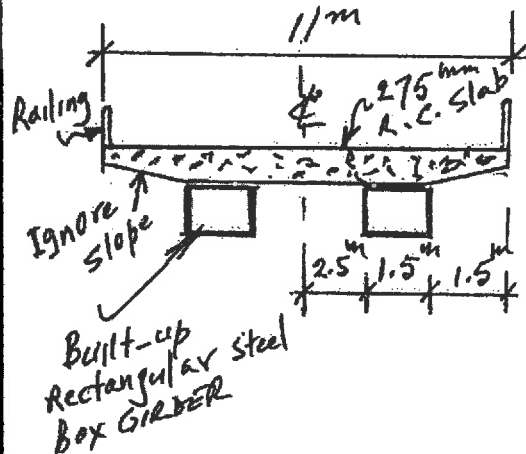

FIGURE 4
5. The cross-section of a composite steel-reinforced concrete bridge is shown in Figure 4. The bridge is to be designed as simply-supported, spanning one-way. The design span length and live load are given in Figure 4. Assuming complete interaction between the steel box girders and the concrete: